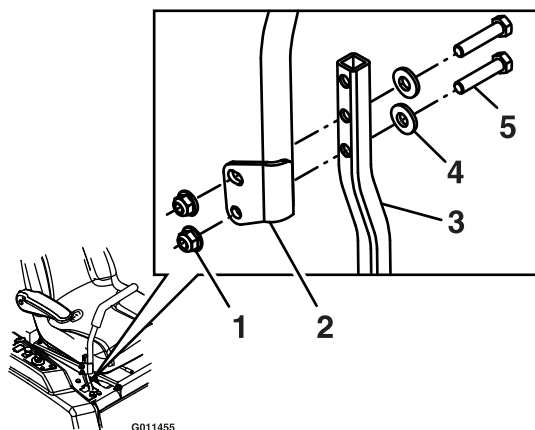

Figure 14
1. Remove the hardware holding the control lever to the control arm shaft (Figure 14).
2. Loosen the lower bolt just enough to pivot the control lever fore or aft (Figure 14). Tighten both bolts to secure the control in the new position.